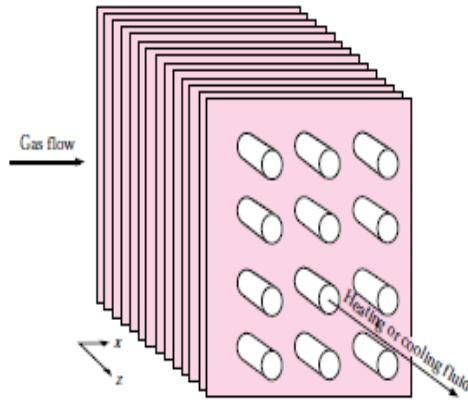

Figure 1: Cross-flow HE with unmixed fluids (Problem 2.5).
**Problem 2.5** A finned-tube heat exchanger (Fig. 1) is used to heat  $2.36 \text{ m}^3.\text{s}^{-1}$  of air at 1 atm from  $15.55^\circ\text{C}$  to  $29.44^\circ\text{C}$ . Hot water enters the tubes at  $82.22^\circ\text{C}$ , and the air flows across the tubes, producing an average overall heat-transfer coefficient of  $227 \text{ W.m}^{-2}.\text{C}^{-1}$ . The total surface area of the exchanger  $9.29 \text{ m}^2$ . Calculate the exit water temperature and the heat-transfer rate. Assume air behaves as an ideal gas, *i.e.*,